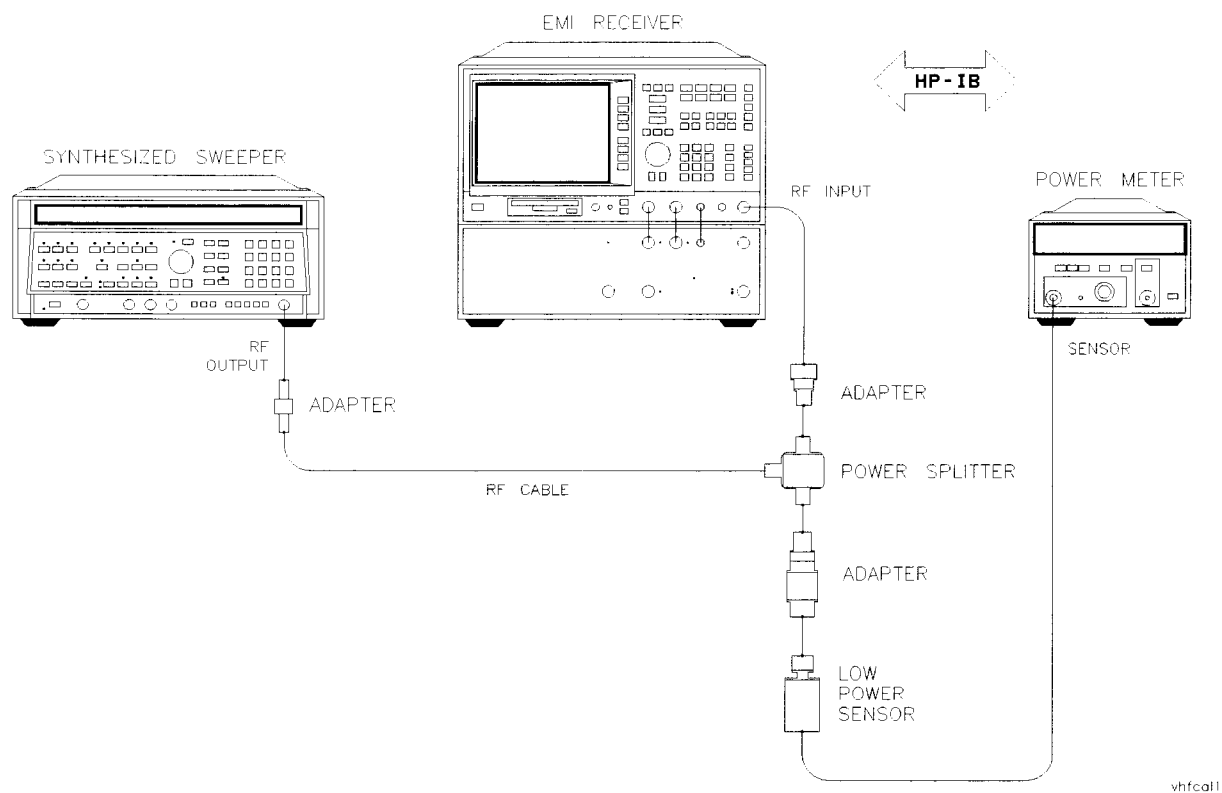

Figure 2-13 *Very High Frequency Calibration, Input 2 Setup*
- The test equipment must be connected as shown in Figure 2-13 on page 2-45.
6. When the program has completed the REF measurements, connect the equipment as shown in Figure 2-13. The following is displayed on the controller.